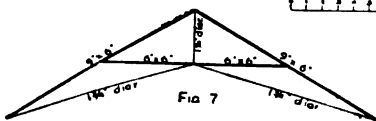
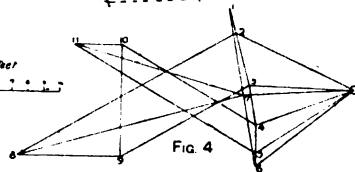

Fig. 7
Fig. 4
only on side next wind, (3) fixed only on side opposite wind. The stress diagrams for these three cases are shown in Figs. 4, 5, and 6. Taking the maximum stresses found under all conditions as in Fig. 7, and allowing  $1\frac{1}{2}$  cwt. per sq. in. compression on the timber, and 4 tons per sq. in. tension on the iron, the scantlings will be as marked in Fig. 7.